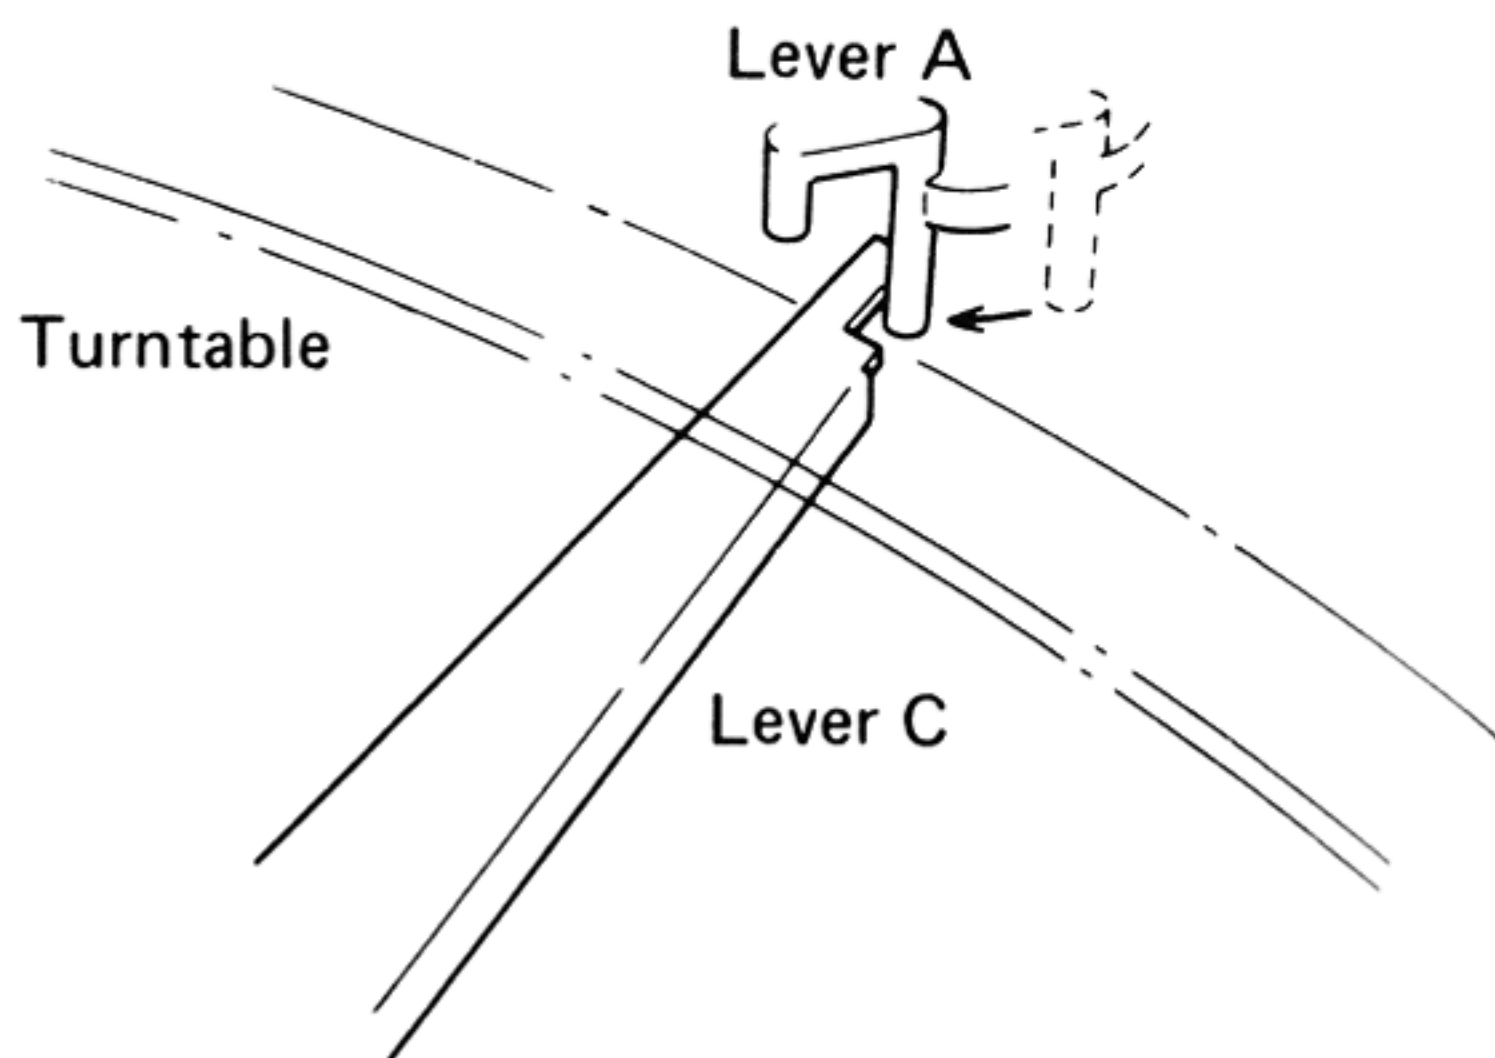

Fig. 2
1. When the stylus nears the center shaft, lever A contacts lever C (Fig. 2).